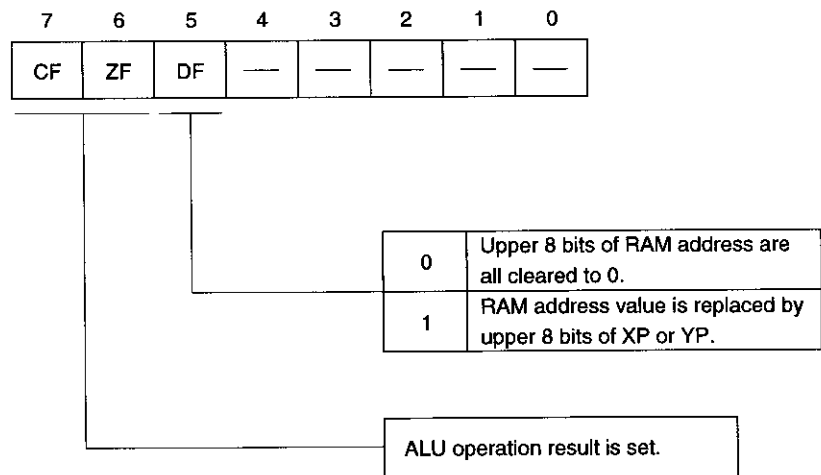

Figure 2-5-1 Flag Status Byte
The flag status byte consists of a 3-bit register comprising the carry flag (CF) and zero flag (ZF) (operation flags) and the direct flag (DF) (address control flag), and a control section. [  Figure 2-5-1 ]